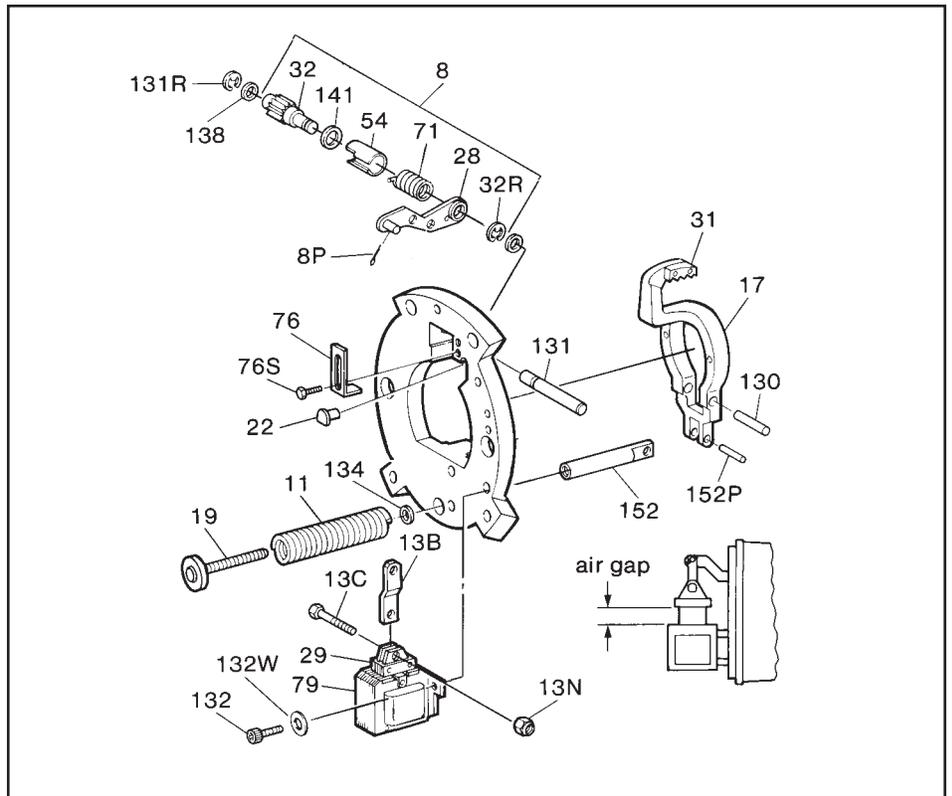

Figure 6
H. Mount support plate assembly, torque screws to 50 in-lbs in endplate. Conical spring washer installed under the screw head. Flat washer used under the conical spring washer only with aluminum support plate. Be sure that assembly is mounted with the solenoid in a vertical position (plunger above frame) as shown when brake is horizontal. If the self-adjust assembly has allowed the mechanism to over-adjust, it will have to be reset before mounting support plate. In this case, the lever arm (17) throat will be near, or touching, the pinion (32) teeth. Refer to Figure 6 and *Self-adjust Maintenance*. Loosen pressure spring cap screw (19) until pressure spring (11) is free, mount support plate assembly to endplate and retighten spring cap screw until snug. Do not overtighten! Torque to a maximum of 8 ft-lbs.
(See Figure 6)